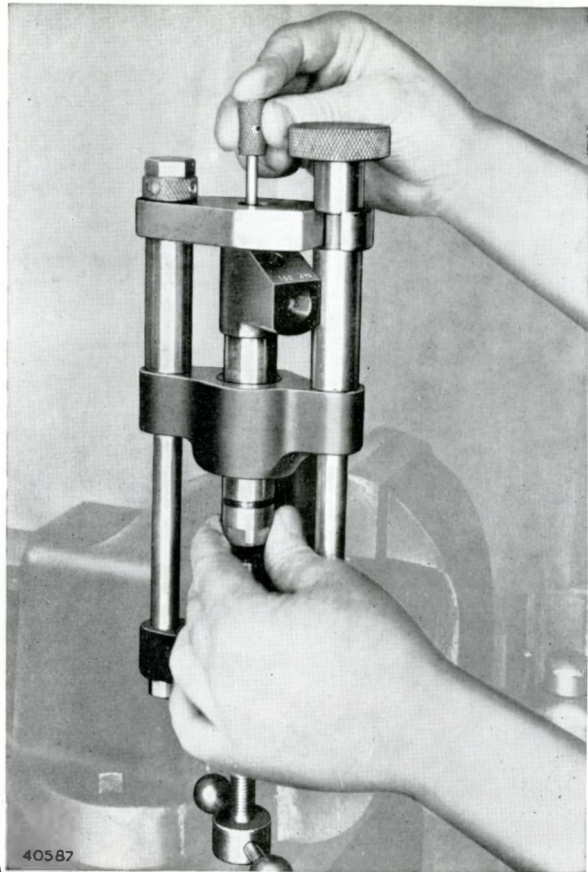

FIG. 63. BOUNCING THE NEEDLE VALVE ON ITS SEAT
5. Tighten the lock-nut slowly and carefully with the fingers, at the same time using the 3BA rod to bounce the needle valve rapidly on the nozzle seat, Fig. 63.